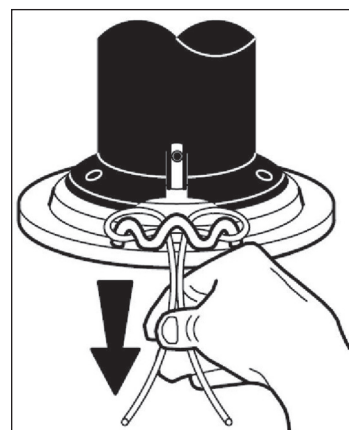

Figure 14: Check ends of line
5. Then, check to make sure that the ends of the line are even. **SEE FIGURE 14.**